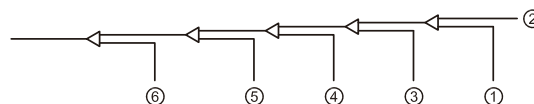

Figure 14-18
8. Flush the other openings in the same manner, working in sequence from indoor unit A towards the outdoor units. Refer to Fig.14-18.